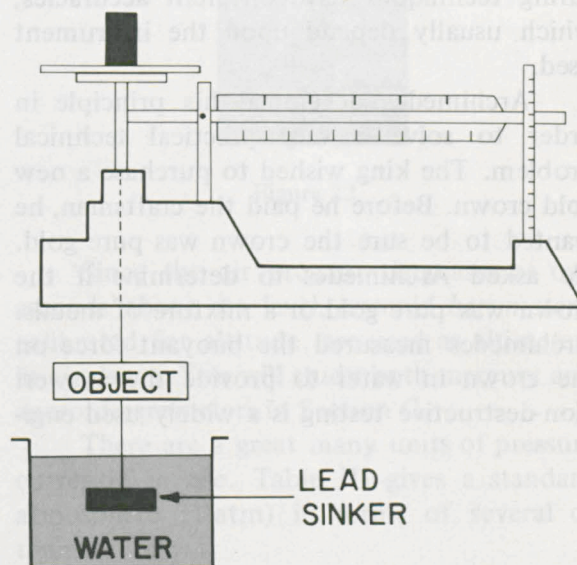

Figure 20.
2. Suspend a heavy metal sinker from the object, as shown in Figure 20.
3. Submerge the sinker, as in Figure 20, and measure and record the apparent mass of the object in air plus the sinker in the water ($M_A + M_{SW}$).